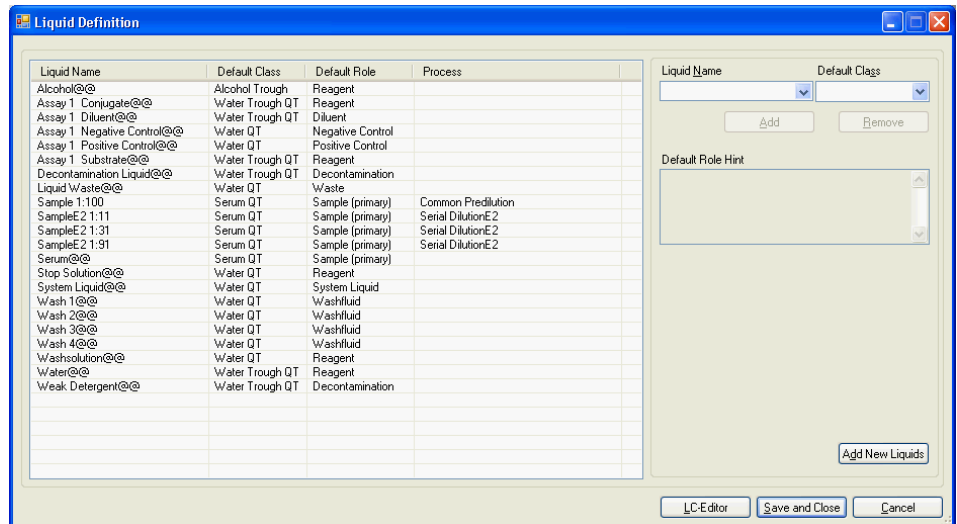

Fig. 7-72 Liquid Definition dialog
- In the file dialog select the XML file containing the predilution process. All liquids provided by the process will be added to the list of available liquids. Refer to the left side of Fig. 7-72 “Liquid Definition dialog”, 7-73: The name and the liquid class (extracted from the predilution process) are listed together with the name of the predilution process which provides this liquid.